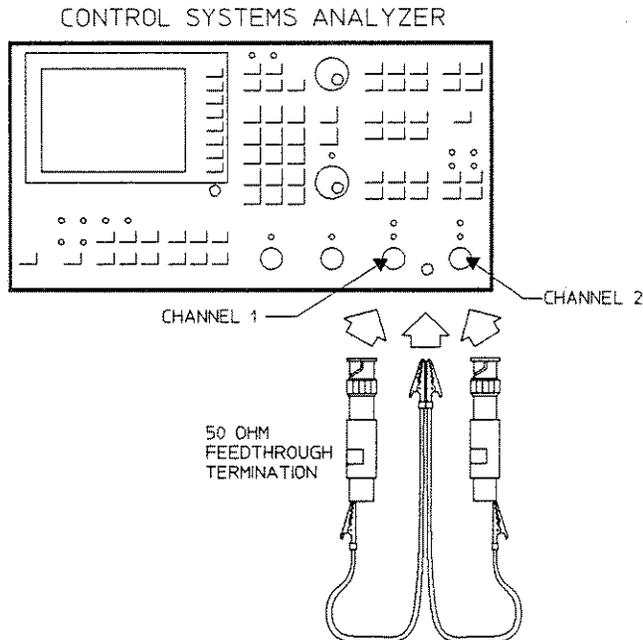

Figure 4-22. Noise and Spurious Signal Level Test Setup
1. Connect the test instruments as shown in Figure 4-22. Keep the leads from the feedthrough terminations to chassis ground as short as possible.